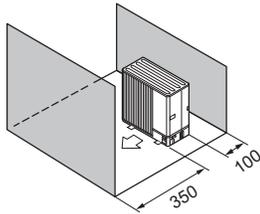

Fig. 2-13
- (5) Obstructions or closed surfaces at front and rear only (Fig. 2-13)